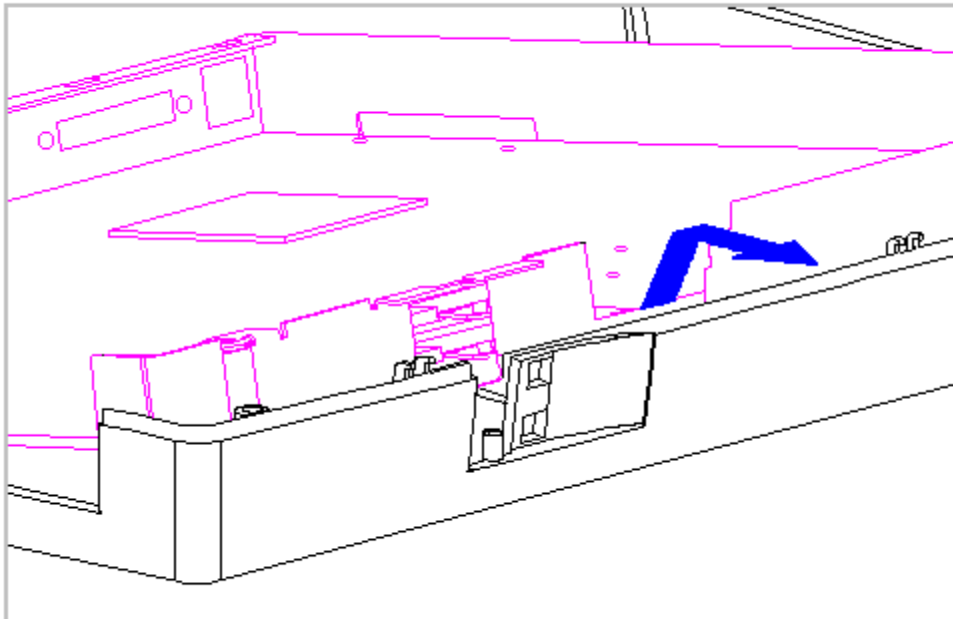

Figure 5-67. Removing the System Chassis
11. Remove the system chassis by gently separating it from the CPU base and lifting out the system chassis (Figure 5-67).